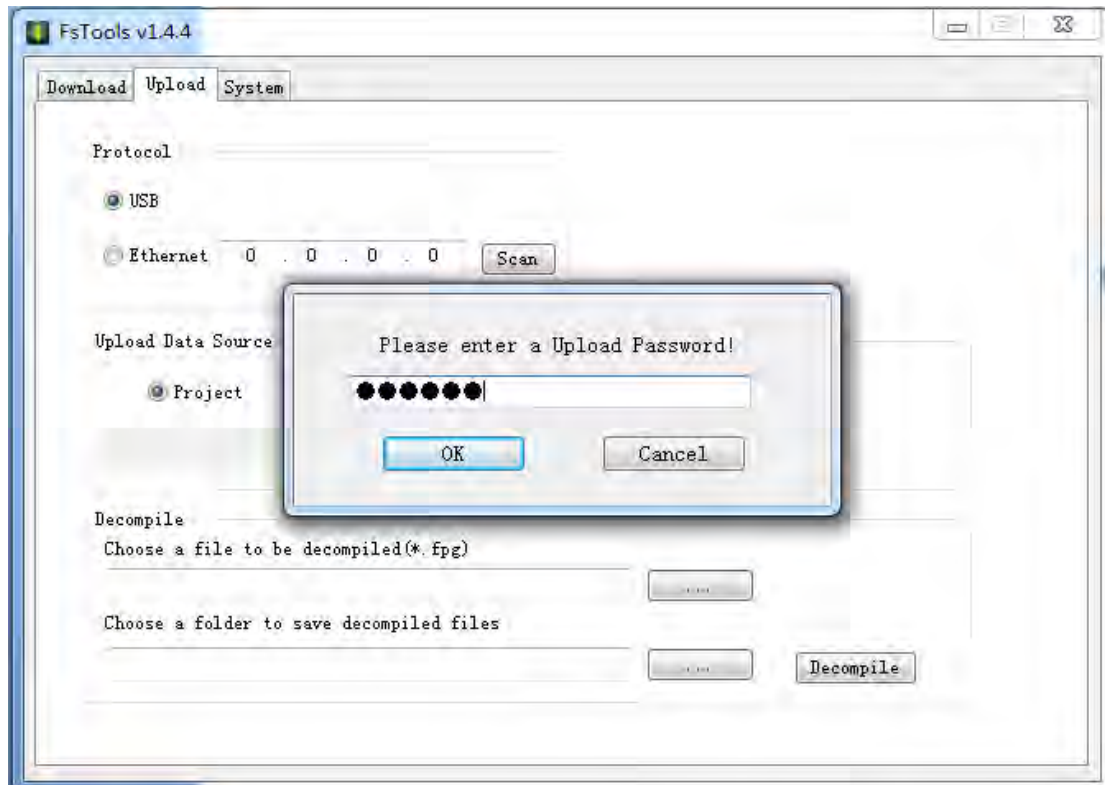
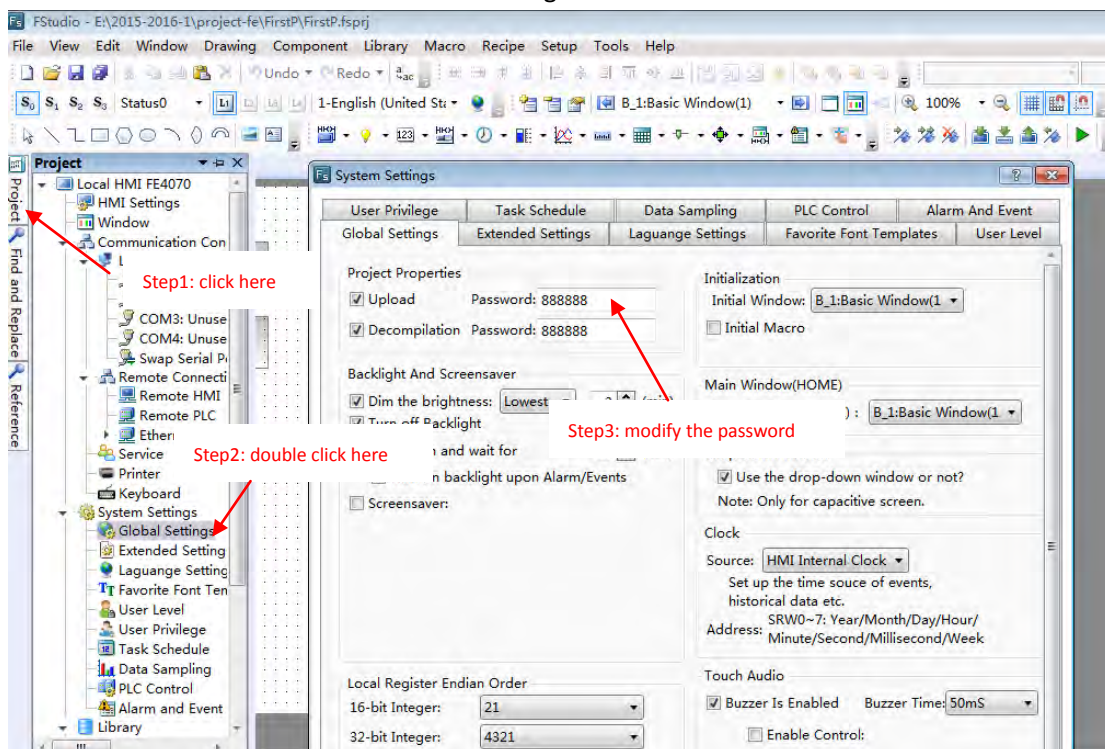

Fig. 21
Fig. 22
② Enter the password for uploading, as shown in Fig. 21. The default password is “888888” which can be modified in “Global Settings”, as shown in Fig. 22.